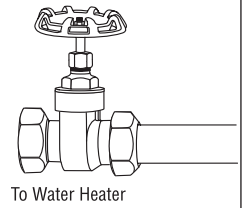

Figure 4
- Using the compression fitting, attach the gate valve to the incoming water supply side pipe. Firmly tighten compression nut. (Figure 4)